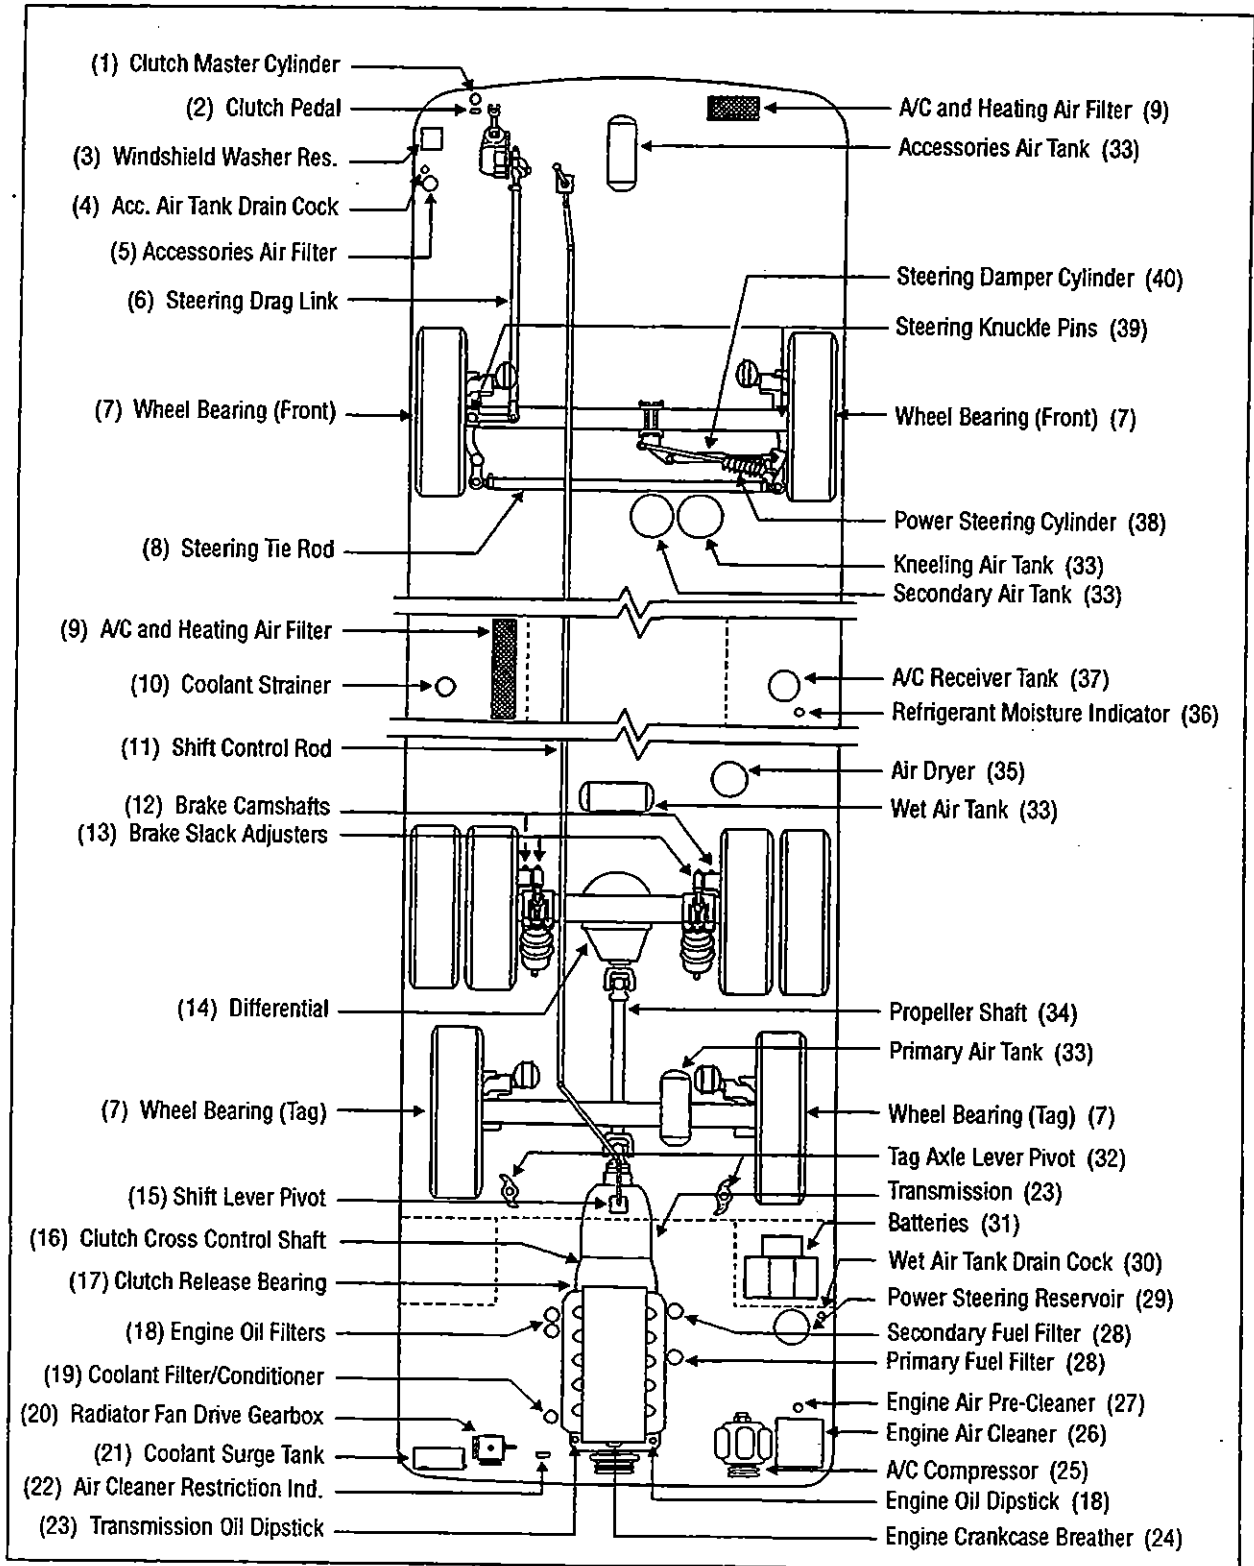

Figure 1
* Item numbers refer to figure 1, on page 4 of this section.